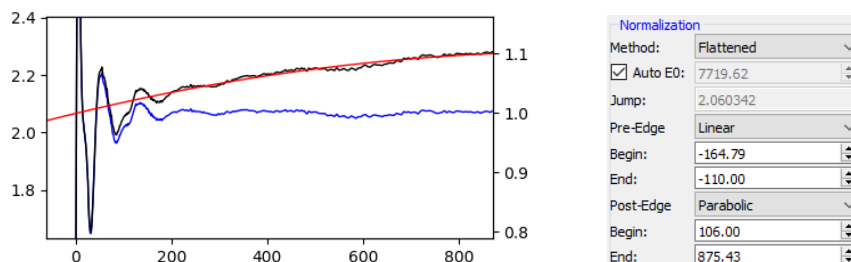

Figure 2-8: A parabolic background subtraction does a good job of flattening the post-edge region.
- 10) You'll likely notice that the bulge in the post-edge is always present, even when the overall slope is still close to zero. This is indicative of the need for a quadratic function for the background subtraction. In the "Post-Edge" box, change "Linear" to "Parabolic" and then adjust the start and end points to try and improve the slope of the post-edge region. With some tweaking I managed to get mine to look like Figure 2-8.